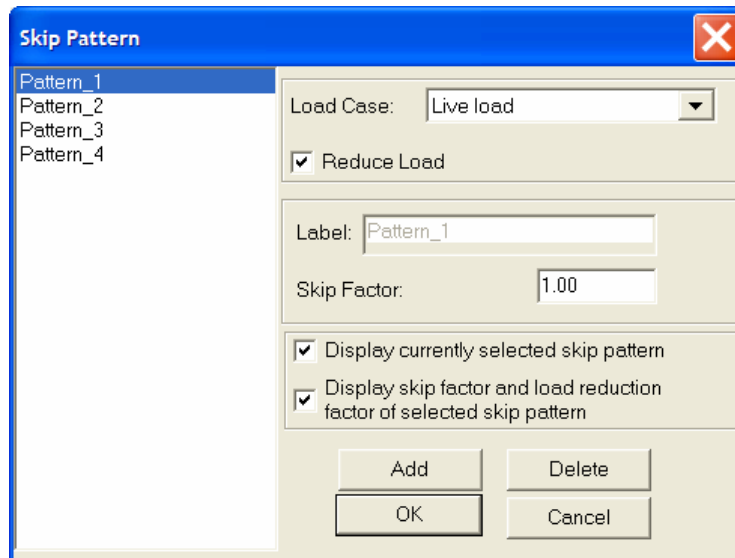

FIGURE 5 SKIP PATTERN SELECTION
- Identify the “skip subregions” that form a load pattern, by selecting the “Load Pattern Definition” option in **Fig. 4** and the dialog box of **Fig. 5**